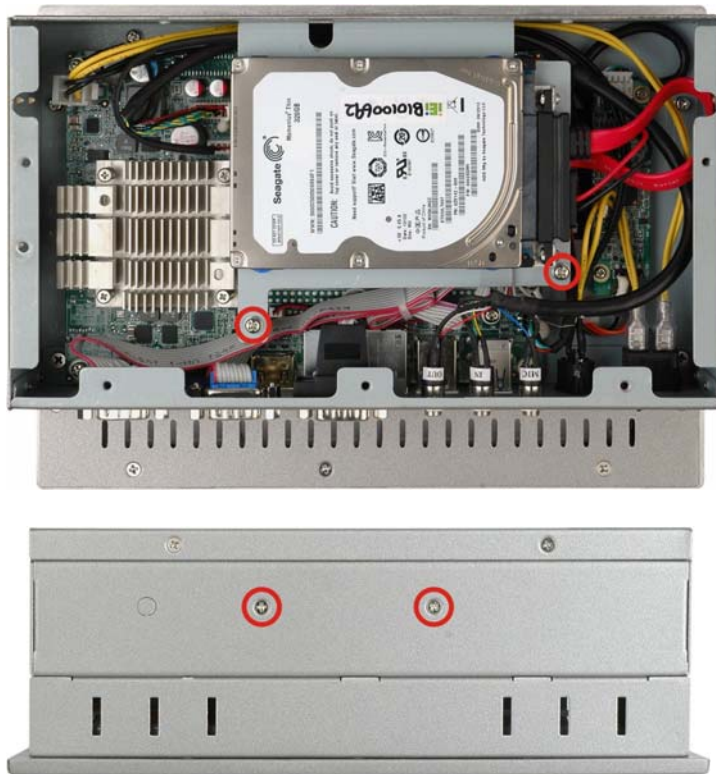

Figure 3-15: Replacing the PPC-3708A-N26 HDD Bracket
Step 4: Install the HDD bracket (with hard drive and SATA cable attached) into the PPC-3708A-N26 and fasten the four HDD bracket screws. **(Figure 3-15.)**